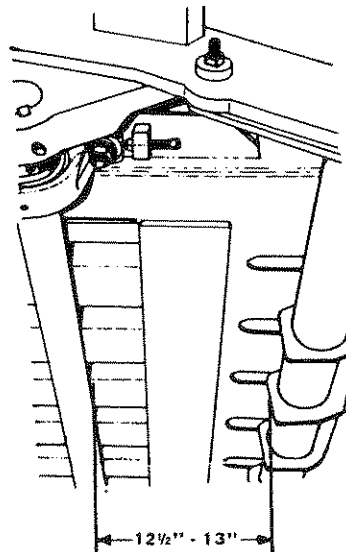

Fig. 45
12. Measure from rear side of feed fork crankshaft to front side of feed fork tine mounting tube, see Fig. 45. When the feed fork is at its highest point of travel in the chamber, the measurement should be 12 1/2" to 13" when switch arm roller is on the high part of the cam.